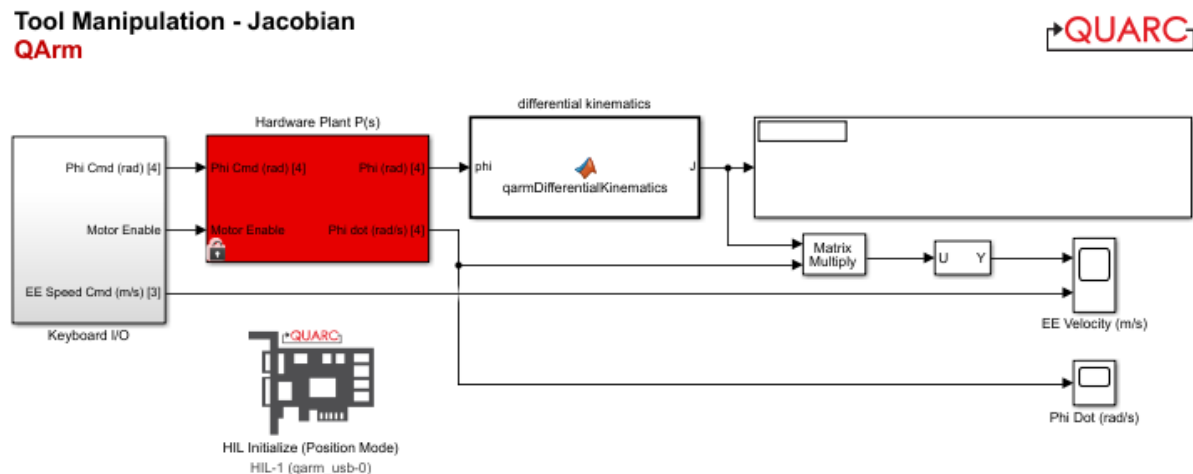

Figure 1 - Jacobian Simulink Model
- Analyze the cases one at a time, while checking the state machine diagram Figure 1 in the Tool Manipulation Concept Review. If start is true, you want to transition to State 2, and if not, you want to remain in state 1. Complete lines 22 and 24 to reflect this transition.